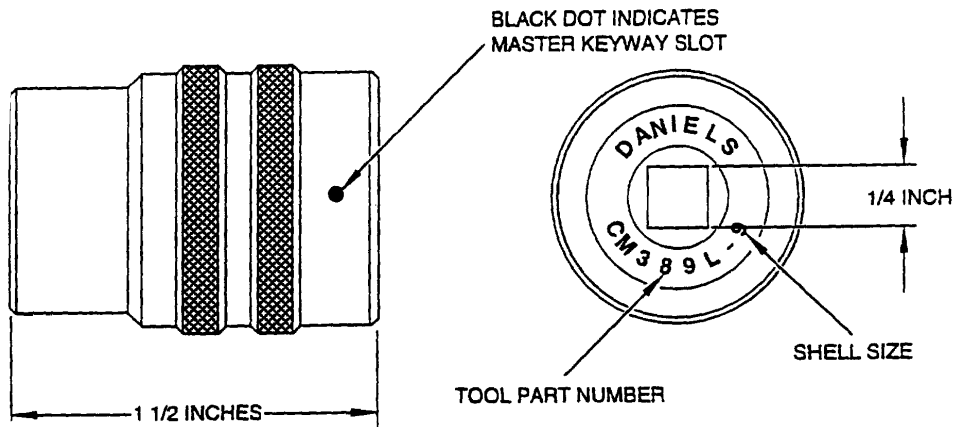
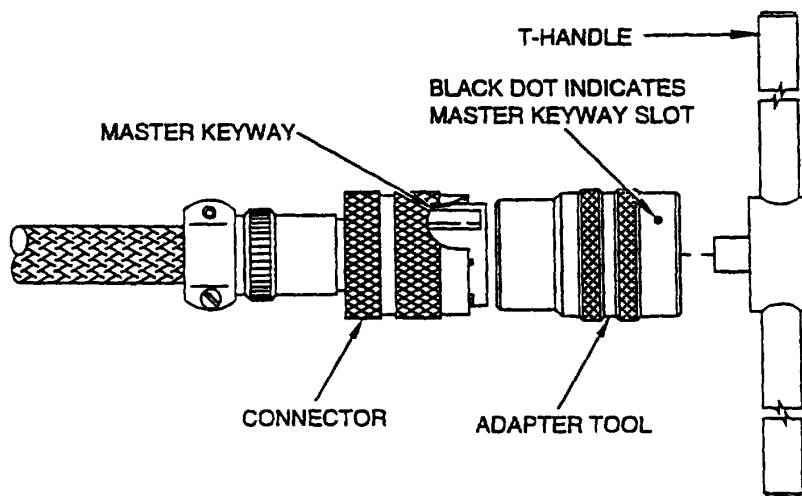
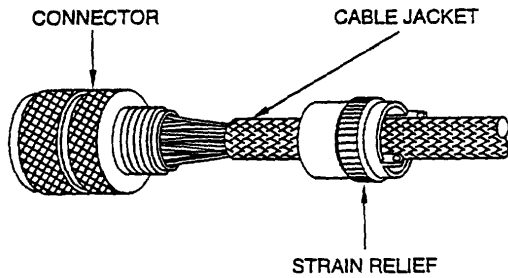

Figure 37. Daniels Accessory Adapter
Figure 38. Accessory Adapter In Connector
Figure 39. Accessory Removed
e. Mate adapter tool (Figure 37) into the front of the connector (Figure 38). The adapter tool part breakdown as follows:
- (1) Example: CM389L-9.
- (2) CM: Daniels Manufacturing Corporation Product Identification.
- (3) 389L: Abbreviated connector part number for which adapter fit (i.e. 3891 fit M38999L connectors, 5015 fit M5015 connectors, etc.). WP 024 00 for details.
- (4) -9: Connector shell size.
f. Remove strain relief from connector and slide back on cable (Figure 39).